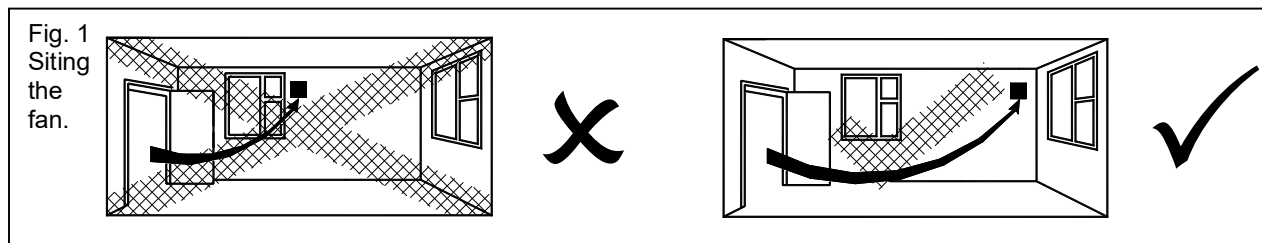

Fig.2 Continuous trickle (6l/s or 9l/s)
1. Select and follow the appropriate wiring diagram. (Fig. 2, 3 or 4)